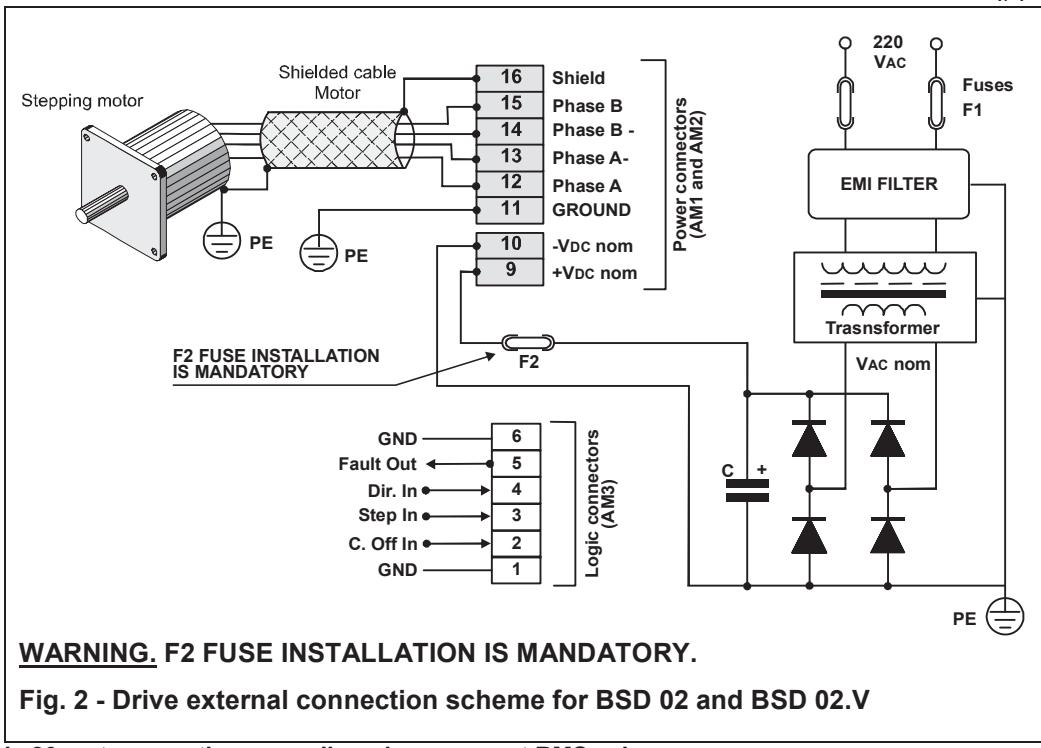

Fig. 2 - Drive external connection scheme for BSD 02 and BSD 02.V
3. POWER INPUTS AND OUTPUTS (AM1, AM2 Connectors; see Fig. 2 and 3)
- 11 - GROUND; connect to Protective Earth terminal (PE).
Drive and all related connections are source of E.M. interference (conducted and radiated). In order to comply to 2004/108/CE and related standards (EN 61800-3), the installation has to be done in accordance with the schematics in Fig 2 and the following indications:
- Connection made to Protective Earth terminal (PE), shown in Fig.2, must be short and have the lowest possible inductance.
It is possible to use a switching power supply instead of a traditional power supply indicated in Fig. 2, provided that you have a capacitor of at least 1000 μF on the output line of power supply. This capacitor should be located at a distance not greater than 1 - 2 meter from Vdc input of the drive. The purposes of the capacitor are: